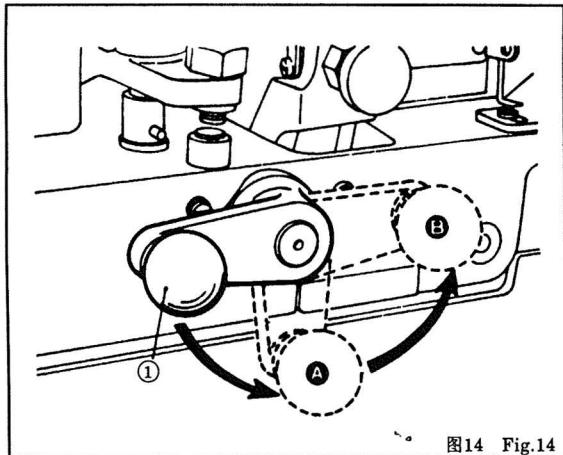

图14 Fig.14
12. 低速运转和紧急停车 图14
12. REDUCTION OF SEWING SPEED AND EMERGENCY STOP Fig.14